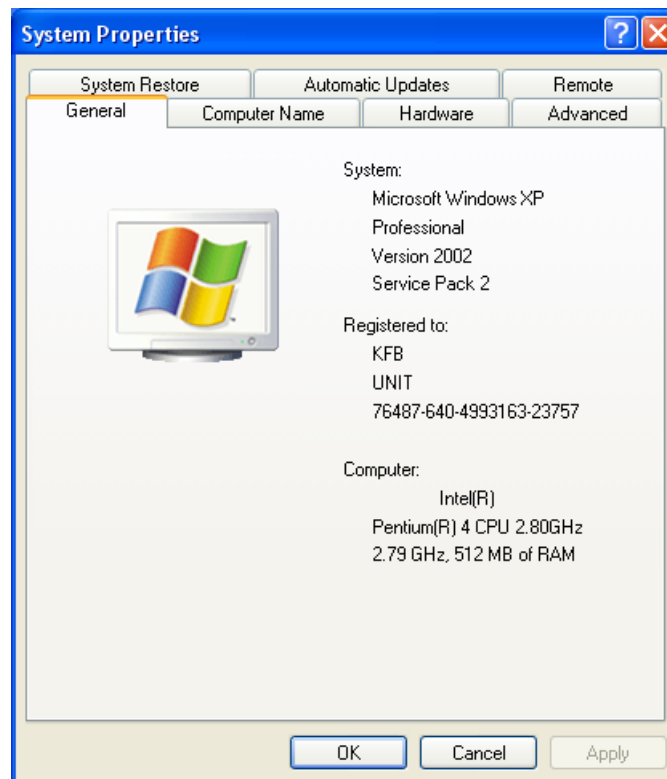
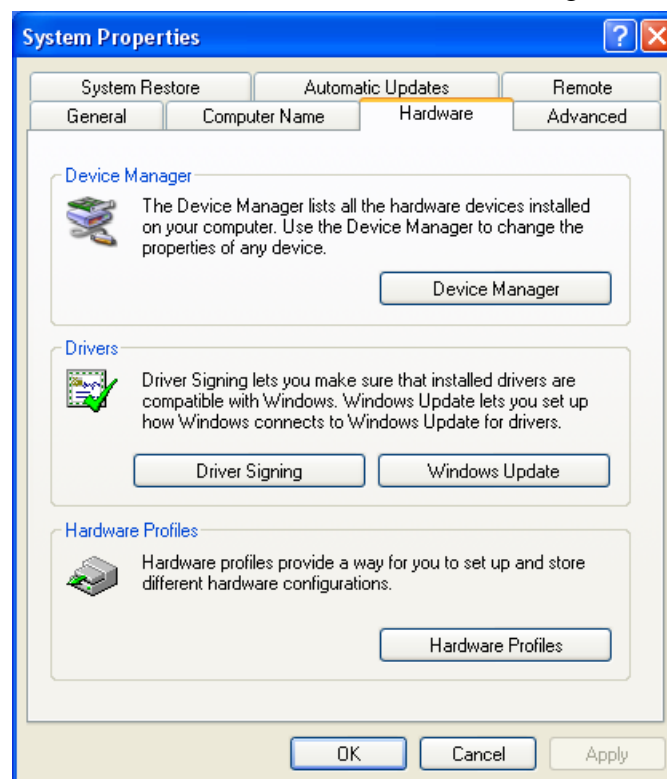
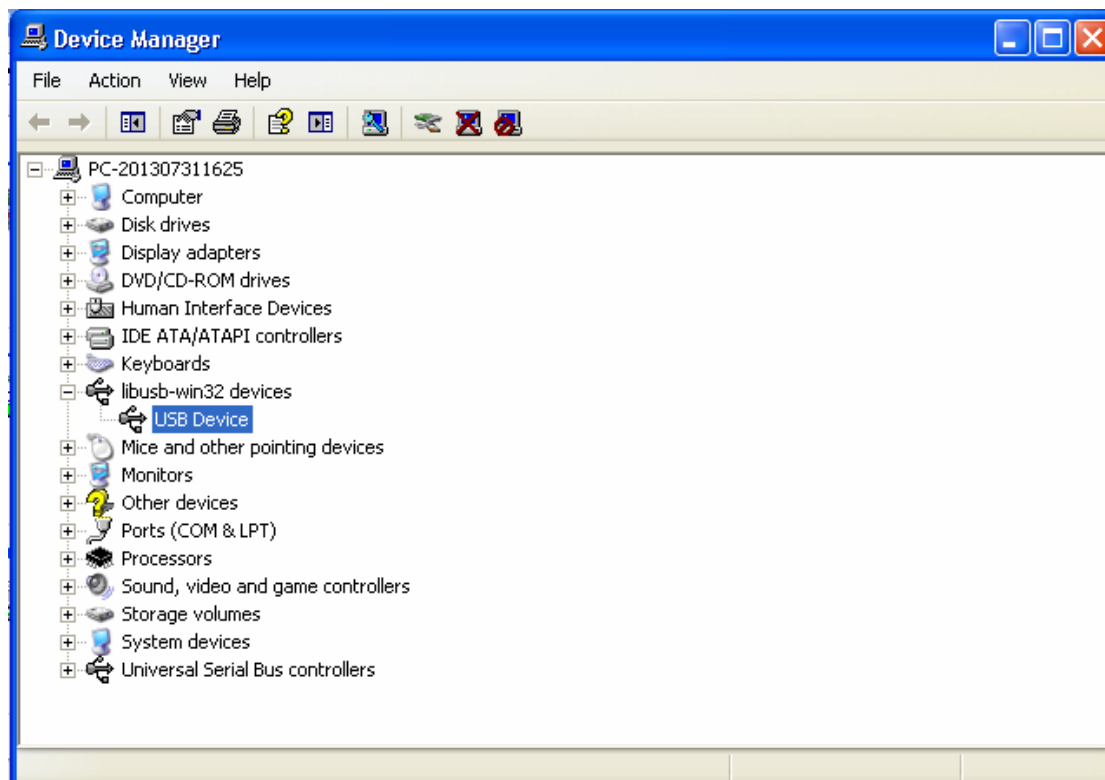

Fig.5-3
Fig.5-4
Fig.5-5
Fig.5-3 will then pop up automatically.
(3) In Fig.5-3, choose Hardware. A window as shown in Fig.5-4 will then pop up.
(4) In Fig.5-4, choose Device Manager (D). A window as shown in Fig.5-5 will then pop up automatically.
(5) After “USB Device” is unloaded from “libusb-win32 devices” in Fig.5-5, Again run the oscilloscope again and choose “Update driver automatically” to finish driver update.